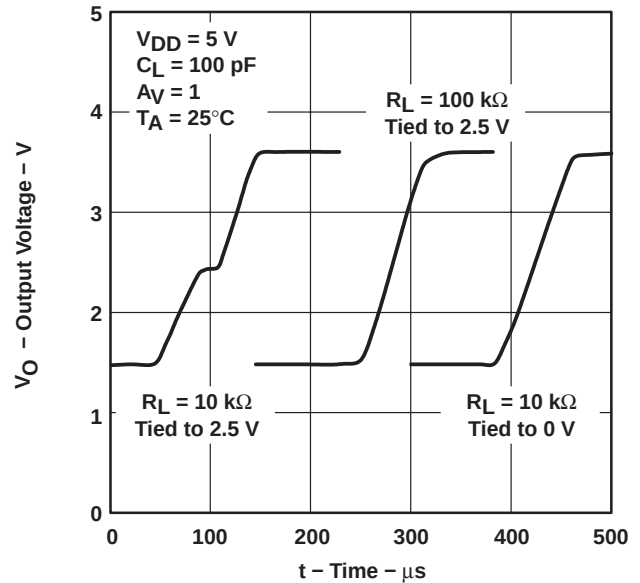

Figure 40
- Where the load is referenced. When the load is referenced to either rail, this condition does not occur. The distortion occurs only when the output signal swings through the point where the load is referenced. Figure 40 illustrates two 10-kΩ load conditions. The first load condition shows the distortion seen for a 10-kΩ load tied to 2.5 V. The third load condition shows no distortion for a 10-kΩ load tied to 0 V.
- Load resistance. As the load resistance increases, the distortion seen on the output decreases. Figure 40 illustrates the difference seen on the output for a 10-kΩ load and a 100-kΩ load with both tied to 2.5 V.